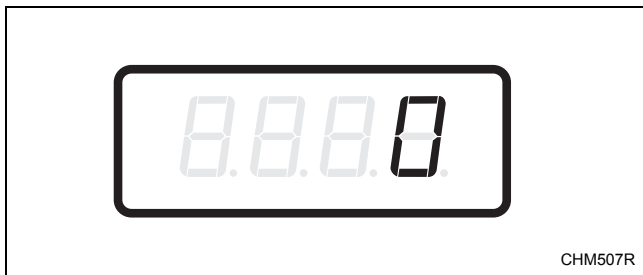

Figure 11
4. When “AtS6” appears in the display, press the START (enter) keypad. There are five digits in the Vend Price #6. The fifth digit will appear in the display and will flash one second on, one second off. Refer to *Figure 11*.